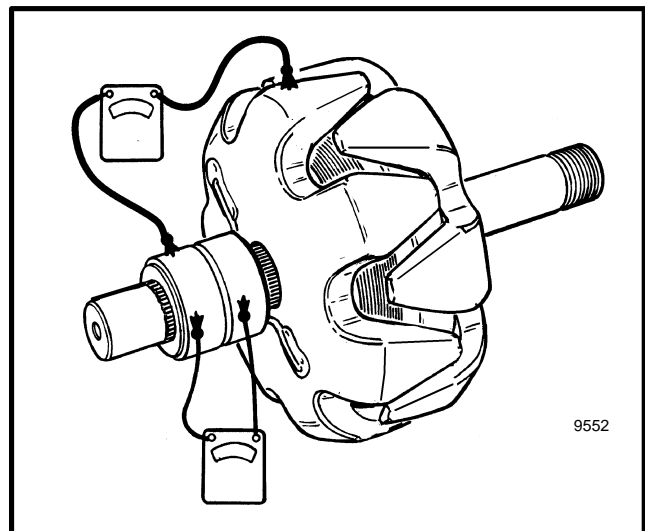

FIGURE 16. ROTOR COIL CHECKS
**CHECK THE FIELD WINDING FOR THE ROTOR (See FIGURE 16.)**
To check the electrical ground, connect the ohmmeter between either slip ring and the electrical ground as shown in FIGURE 16. Replace the rotor if the reading is less than infinity.